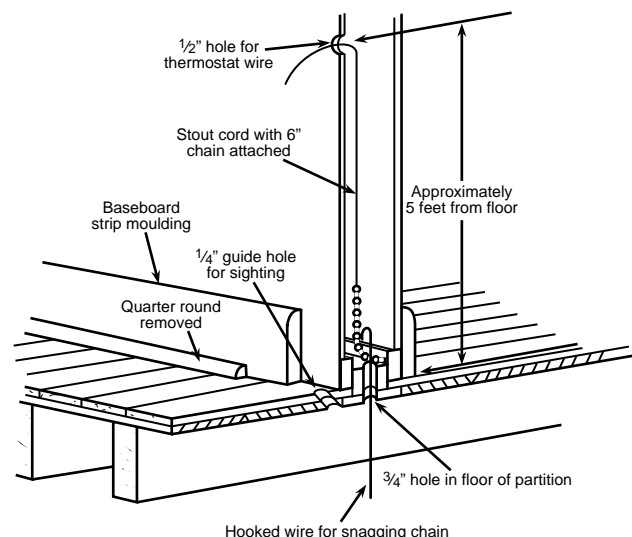

Figure 1. Routing thermostat wires
3. Probe for obstructions in partition before drilling 1/2" hole in wall at selected location. Take up quarter round and drill a small guide hole for sighting (see Fig. 1). From basement, drill 3/4" hole in partition floor next to guide hole. In basementless houses, drill 1/2" hole through ceiling and into partition from above (see Fig. 1).